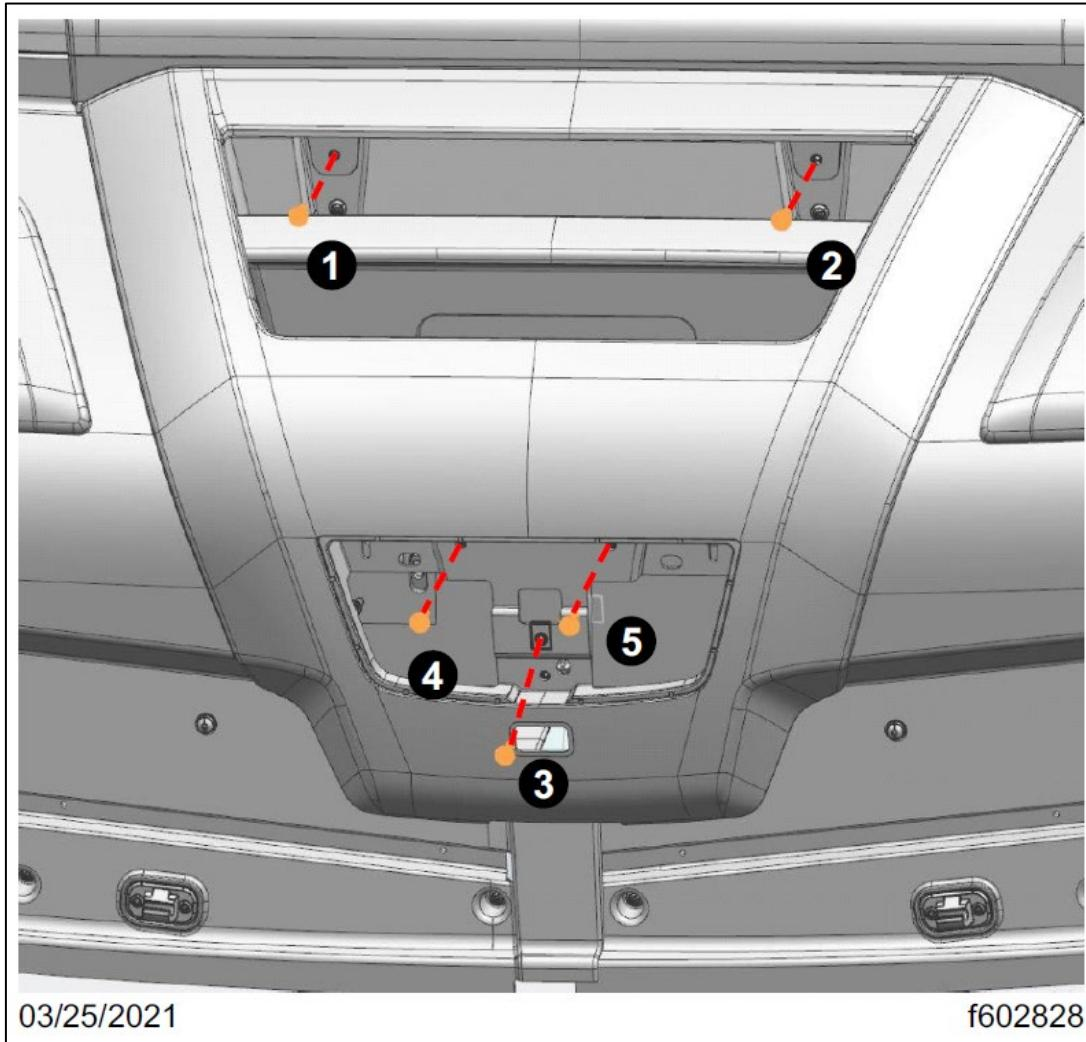

Fig. 69, Center Bezel Fasteners Installation Sequence
14.8. Install the five fasteners that attach the center bezel to the center overhead storage bin. Tighten the fasteners 5 to 7 lbf.ft (6 to 9 N.m) as per the sequence shown in Fig. 69.